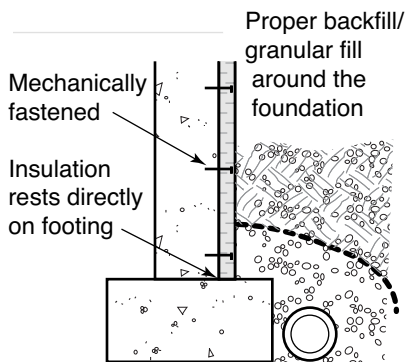

FIGURE 35
- ◆ Ensure that exterior insulation rests directly on the footing to minimize slippage. When using free-draining insulation materials, ensure that draining water has direct access to the weeping-tile system (see Figure 35).